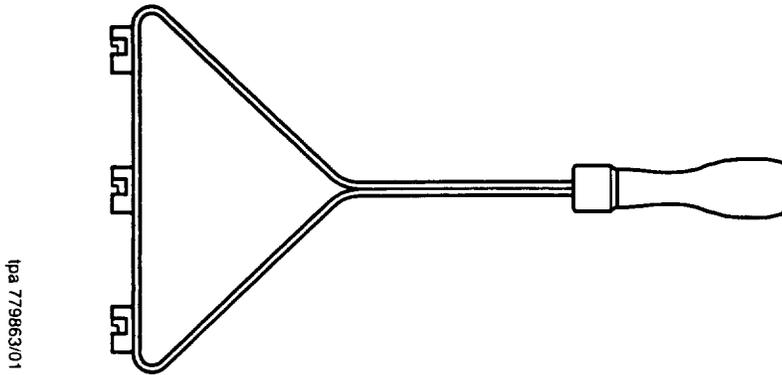

Figure 20. KS-22616, L1 Connecting Block Removal Tool
8.08 The KS-22616, L1 connecting block removal tool is a hand tool used to unseat the 112-type connecting blocks from the *COSMIC* Mini DFs (Figure 20).